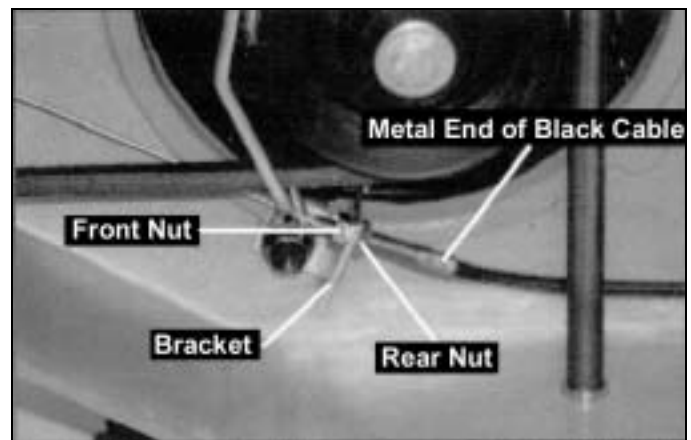

Figure 35
To adjust the belt tension through the trimmer control cable (*Figure 35*), you may find it easier to set the trimmer up on a workbench, or, after draining the gas and oil from the engine, tip the machine back on the handlebar.
1. With wrench or pliers, loosen the nut in front of the bracket, leaving about 1/8" of space between nut and bracket (*Figure 35*).
2. Grip the metal end of the black cable with pliers, making sure you DO NOT pinch it. At the same time, tighten the rear nut until it is flush and snug against the bracket. The parts will then be in the same position as in step 1, but 1/8" to the right (*Figure 35*).